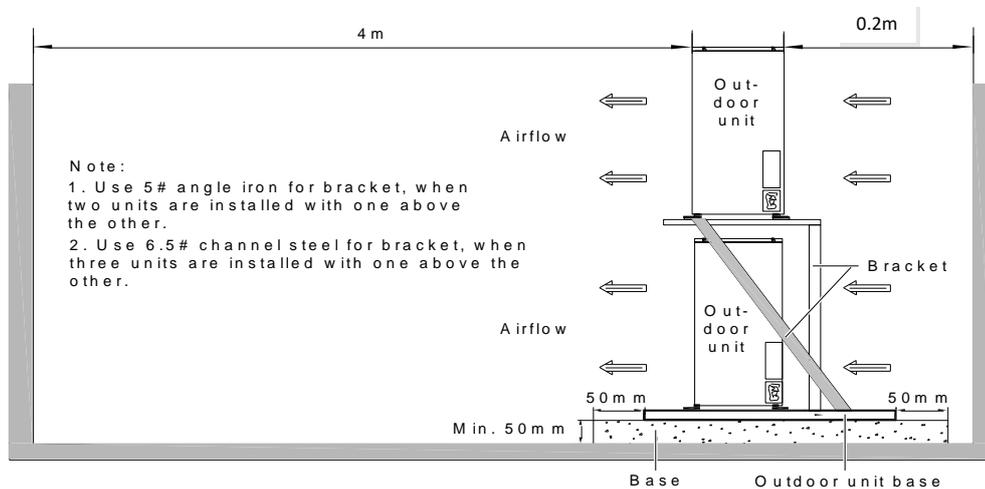

Figure 3-8 Installing multiple outdoor units with one above the other
3) Installed against wall for outdoor unit, and the distance from air return side to wall shall be 0.2 m. See following Figure 3-8. If there are multiple outdoor units that need to be placed with one above the other, follow the method shown in Figure 3-8 to install them.
7. You need to prepare a base that can withstand the weight of the outdoor unit and the base should be at least 50 mm above the surrounding floors, and should be higher than the outdoor base by 50 mm (see Figure 3-8).